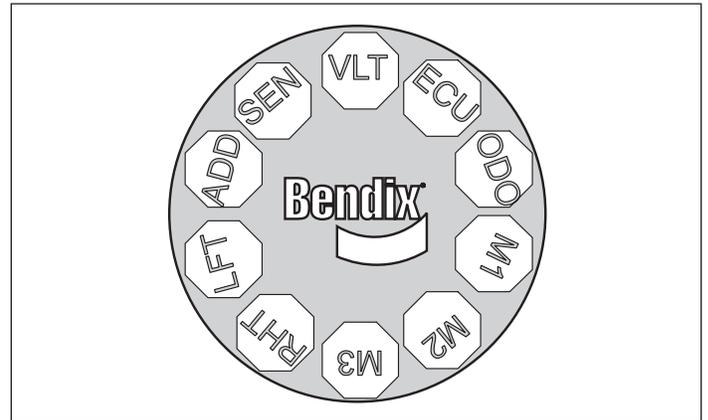

Figure 12 – TRDU Tool Display
If the ABS ECU has at least one (1) active DTC, the TRDU tool displays the first DTC by illuminating the red LEDs, indicating the malfunctioning ABS component and its location on the vehicle. See Figure 12.